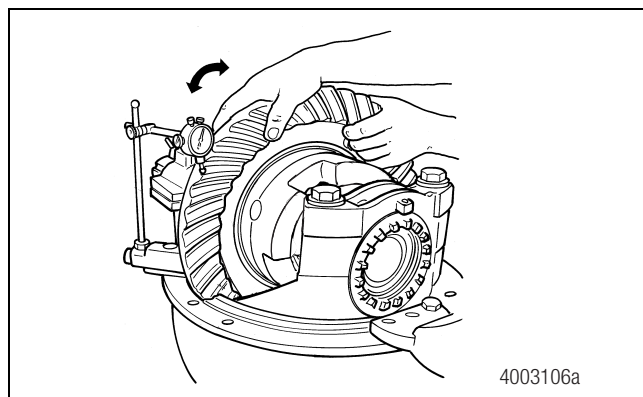

Figure 4.25
1. Measure the ring gear backlash. Attach a dial indicator onto the mounting flange of the carrier. Figure 4.25.